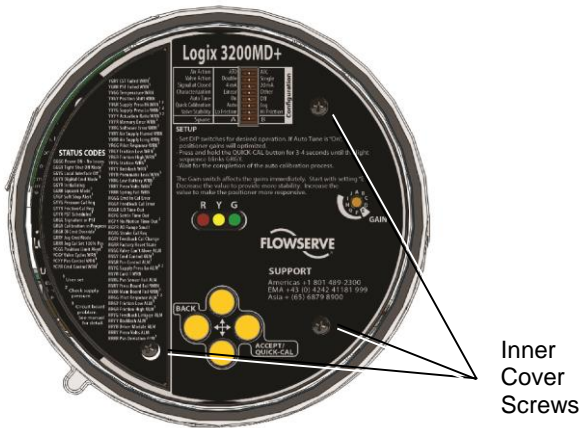

Figure 35: Inner Cover
- 6 Remove main board screw and auxiliary board screw (See Figure 35).
- 9 Remove the screw from the main circuit board. See Figure 35.